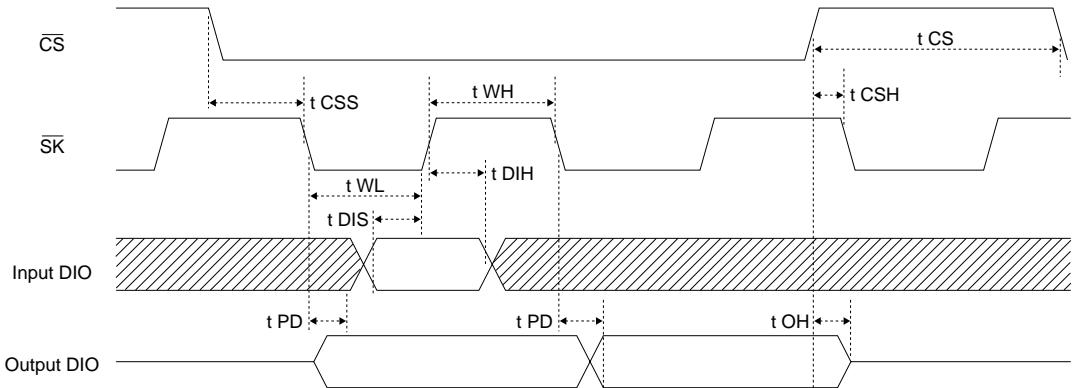

Fig. 10 Synchronous data I / O timing
- 1) When the Wiper Counter Data Output (WCR) command is received, seven bits of the data at the current wiper position are output to D8, D9, D10, ..., D14, in sequential order. If a clock of longer than 24 clocks is input, indefinite data may be output. (For the DIO output, the data may change at the  $t_{PD0}$  and  $t_{PD1}$  time delays, in response to the internal circuit delay starting from the falling edge of the  $\overline{SK}$  signal. During the  $t_{PD0}$  and  $t_{PD1}$  time intervals, data should be loaded after the  $t_{PD}$  time has been assured, in case the previous data is indefinite. Refer to Fig. 10, Synchronous data I / O timing.)
(3) Wiper counter data input (WCW)